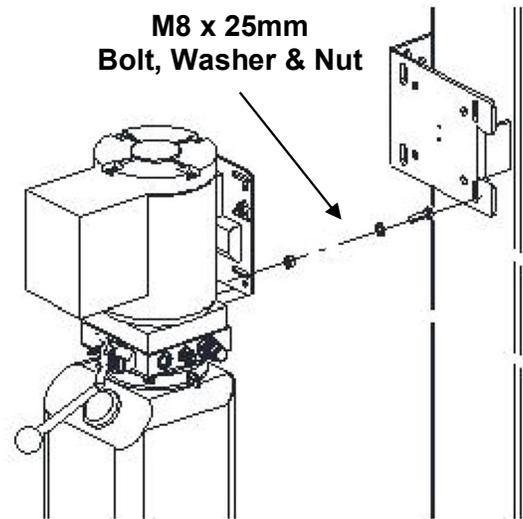

Fig. 21
- 1) Carefully remove Power Unit from the package and mount to the Main Side Post bracket using **M8 x 25mm** Bolts, Washers & Hex Nuts, keeping the left side slightly loose to mount Control Bracket, **Fig. 21**.